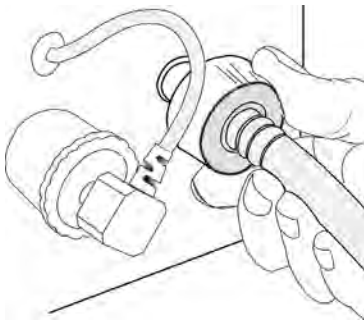

Figure 7.23 O₂ hose connection
4. Attach one arm of the tubing to the manometer and connect the other (with the correct DISS fitting) to the high pressure O₂ inlet on the rear of the instrument shown in Figure 7.23.